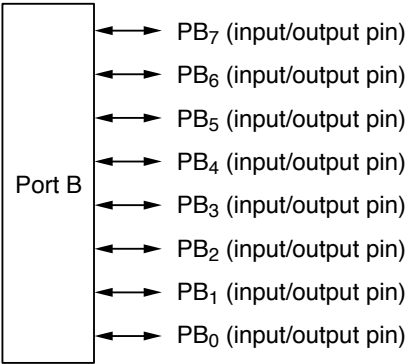

Figure 9-72 Pin Functions in Mode 7
(3) Pin Functions in Mode 7: Port B consists of general-purpose input/output pins. Input or output can be selected separately for each pin. A pin becomes an output pin if the corresponding PBDDR bit is set to 1 and an input pin if this bit is cleared to 0. Figure 9-72 shows the pin functions in mode 7.